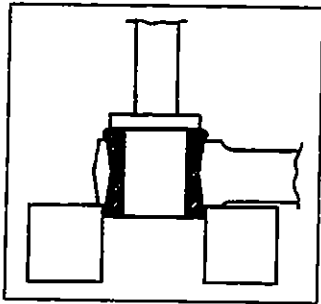

Figure 8 16011
1. Safely support the radius rod as shown in figure 8.
2. Place a flat steel disc, slightly smaller than the outside diameter of the bushing (see fig. 8).